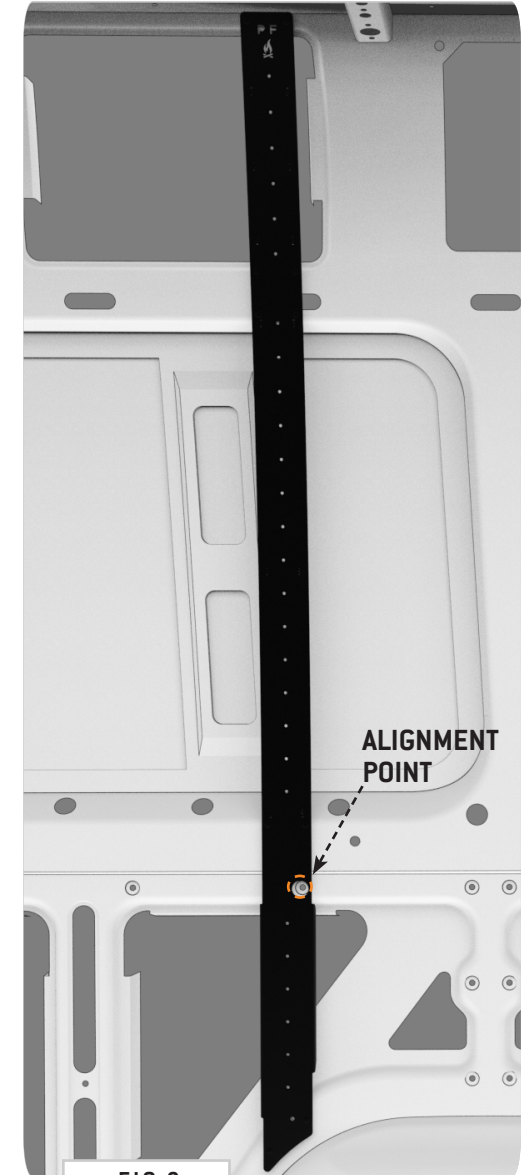

FIG 6
3.3 Align Passenger Side Front Bracket: Align the **Passenger Side Front Bracket** to the **Alignment Point** as shown in **FIG 6**.